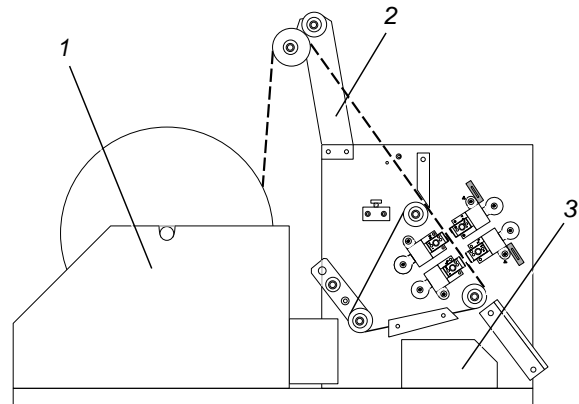

Figure 7 CF-9 Installation
4. Assemble reel holder and tape guide arm. Refer to Figure 7, Items 1 & 2 for proper placement on the machine. The screws (1/4-20x1/2") for securing the reel holder and tape guide arm are located in the appropriate holes in the CF-9's main frame.